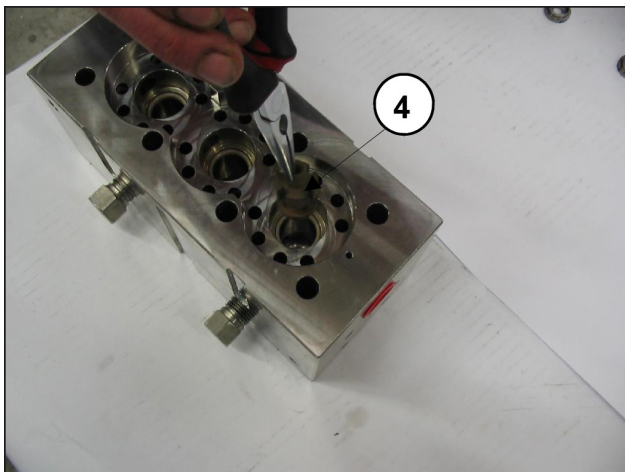
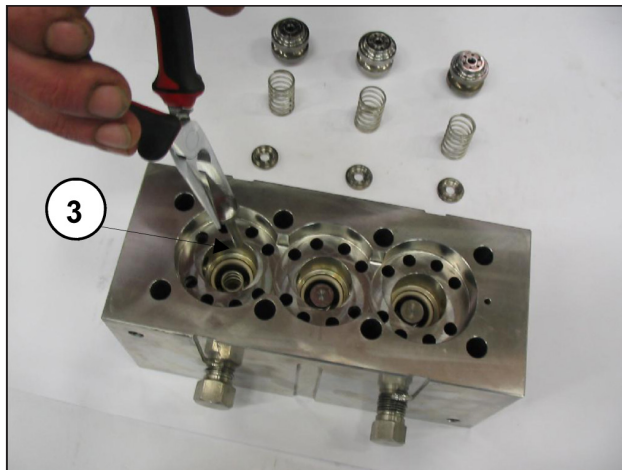

Fig. 26
Fig. 27
- Extract the outlet plates ③ and their guides ④ with the springs, as shown in Fig. 26 and Fig. 27, check for wear and replace if necessary, and in any case within the times indicated in the "PREVENTIVE MAINTENANCE" table of chapter 11 in the *Use and maintenance manual*.